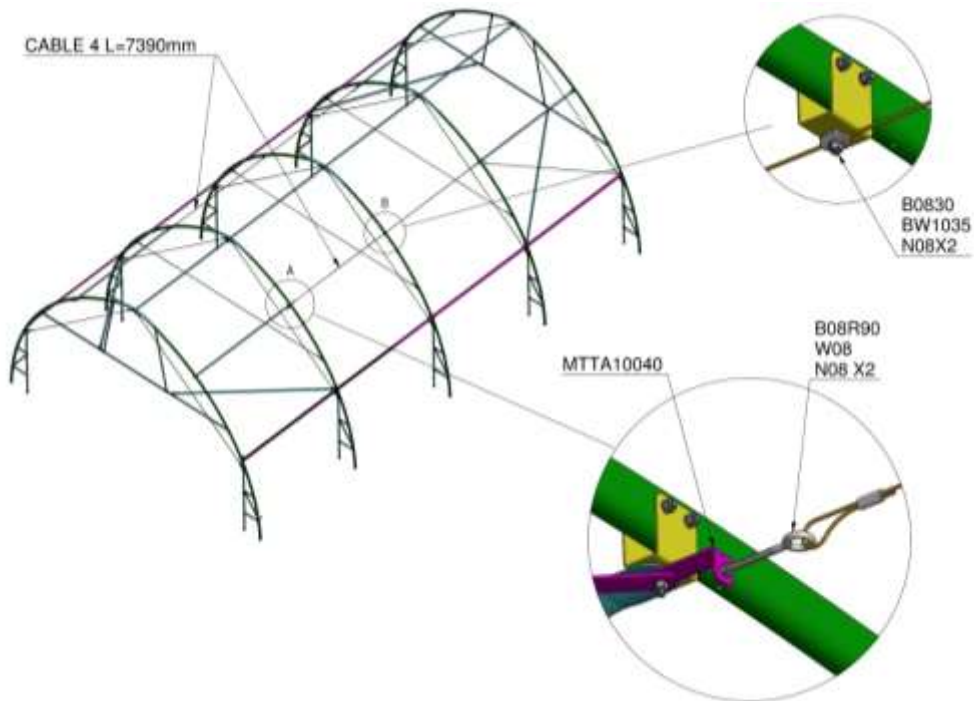

Figure 22: Middle arcs. stabilized at 2/3 height
3. Add cables (#4) between middle arcs at 2/3 height on both sides of the structure (Figure 22).